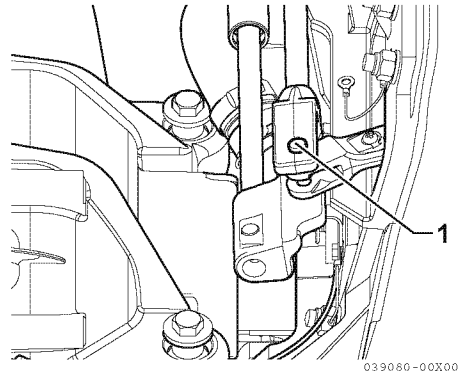

Figure 6
3. Lubricate the steering system clevis pin (1, **Figure 6**).